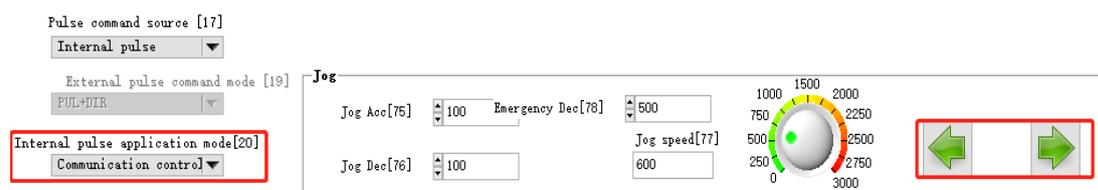
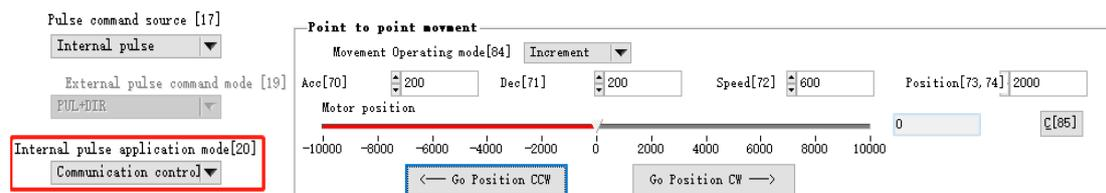

Figure3-1
Figure3-2
The communication control settings are shown in Figure 3-1 and Figure 3-2. When using communication control, it is necessary to set the Internal pulse application mode to "0: communication control".
①Jog test: As shown in Figure 3-1, the "left and right arrows" in the jog test represent the forward and reverse rotation of the motor respectively, which can be used for motor testing.
②Point to point movment: As shown in Figure 3-2, "Go positon CCW" and "Go Position CW" in the point-to-point motion test respectively represent the reverse and forward rotation of the motor, which can be used for the point position test of the motor.